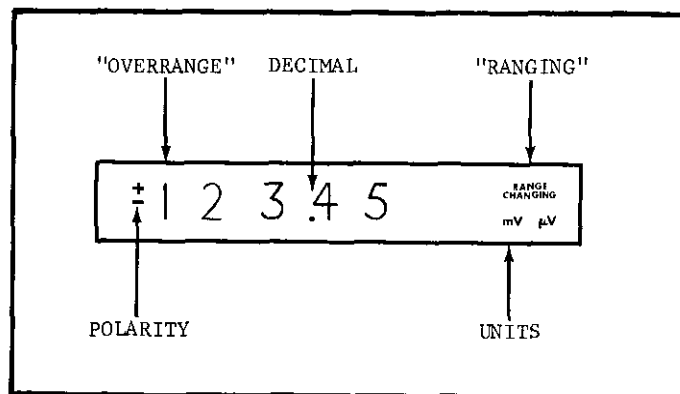

FIGURE 5. Digital Display.
a. Digital Display. The display is composed of four digits, an overrange "1", a floating decimal, and "µV" or "mV" designations. A typical four digit display is shown in Figure 5.